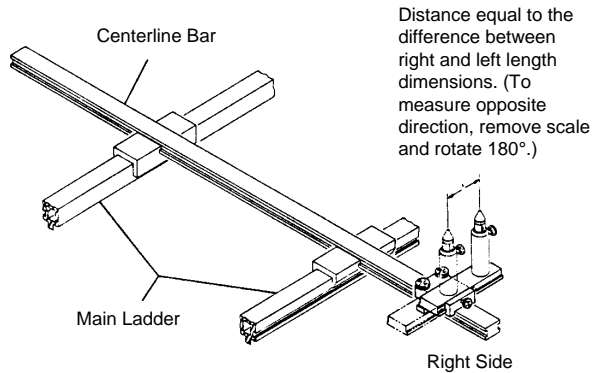

Figure 24
Asymmetrical vertical scale holder is used when corresponding right and left dimensions are asymmetrical at a given position (within 100mm). (See Figure 24.)
2. Place asymmetrical holder on right side of centerline bar as shown in Figure 24.